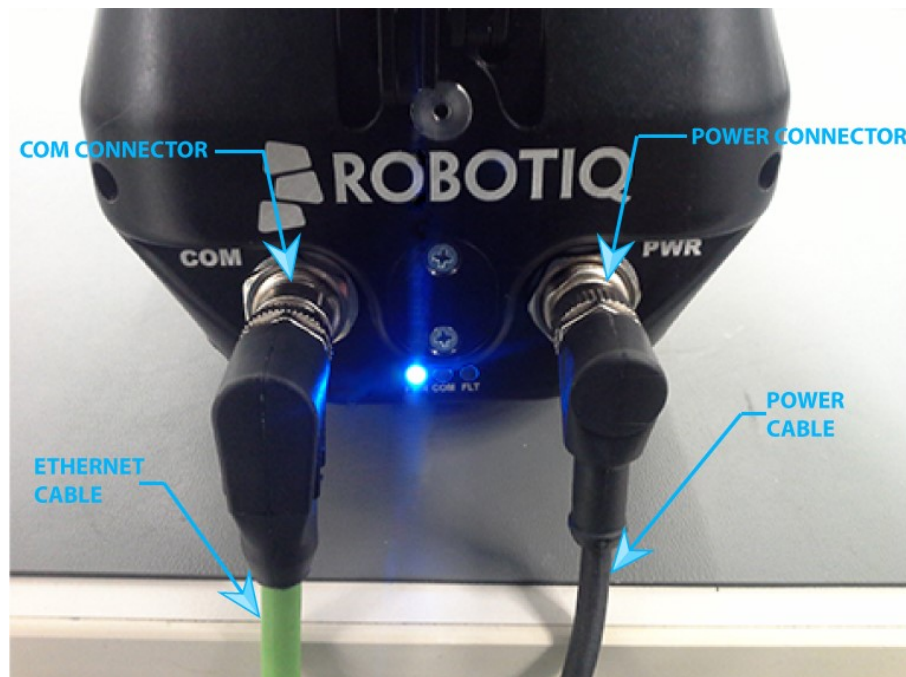
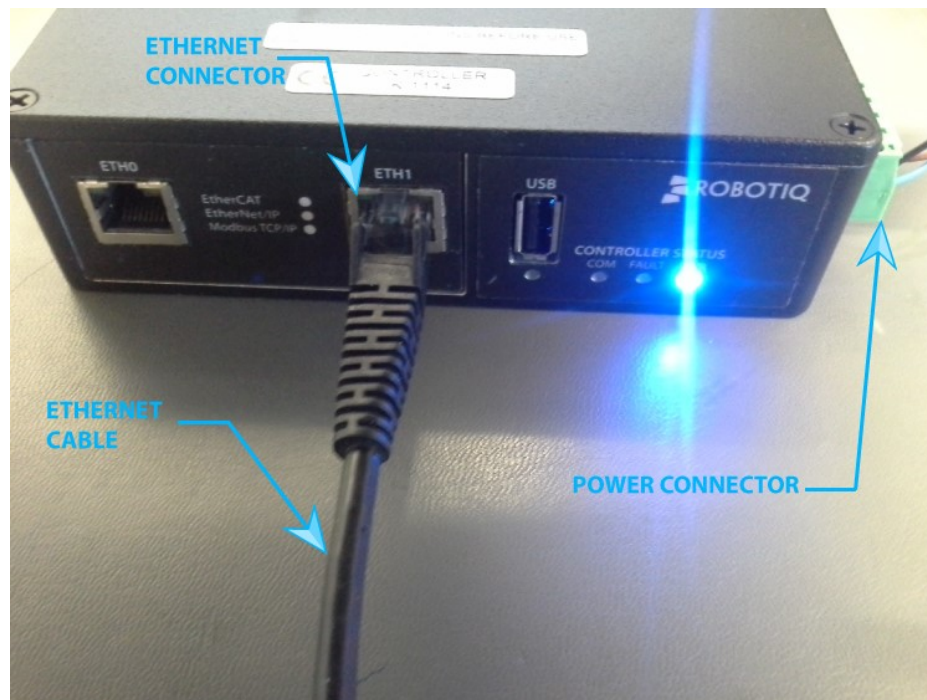

Figure 3.3.1 : Modbus TCP cabling setup for Robotiq 3-Finger Adaptive Robot Gripper
Figure 3.3.2 : Modbus TCP cabling setup for Adaptive Robot Gripper and Vacuum Gripper Series.
1. Unplug the Gripper from the power source by disconnecting the power cable from the 3-Finger Gripper (Figure 3.3.1) or the power connector from the Controller for the Adaptive Gripper or Vacuum Gripper (Figure 3.3.2).